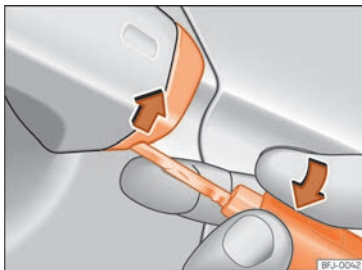

Fig. 91 Driver door handle: lever the cover off
- Insert the key shaft into the lower opening in the cover on the driver door handle »» Fig. 91 then remove the cover upwards.